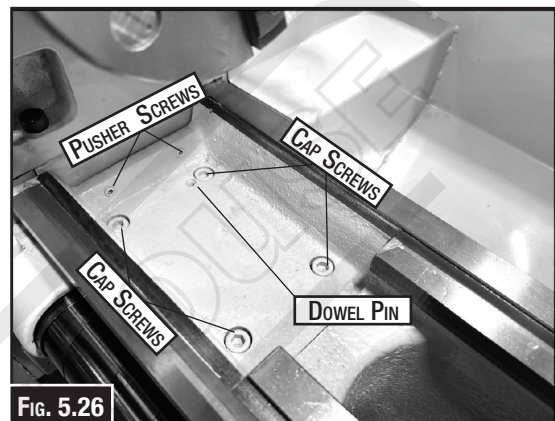

FIG. 5.26
4. Loosen the pusher set screws (Fig. 5.26) a few turns until they are no longer in contact with the headstock.